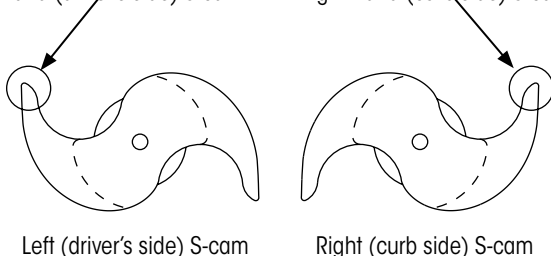

Figure 10: Identifying S-cam orientation
To differentiate, hold the S-cam horizontally with the splines facing away from you and look at the S-cam head. With the S-cam in this position (Figure 10), the
Figure 10 parts identification also applies.
3. **Remove** the spline inner washers (item 14, Figure 10).
**IMPORTANT:** S-cams have left-hand (driver's side) and right-hand (curb side) orientations. Ensure the proper S-cam is installed so that the brake shoe rollers can properly engage the S-cam lobes. To differentiate, hold the S-cam horizontally with the splines facing away from you and look at the S-cam head. With the S-cam in this position (refer to Figure 10 on page 12), the S-cam lobe that points upward indicates orientation.